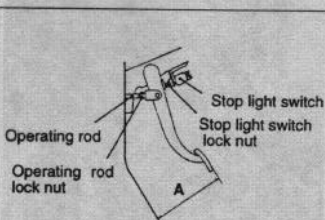

Fig. 11 Measure the brake pedal height at A and compare to specifications
- ♦ See Figures 11, 12, and 13